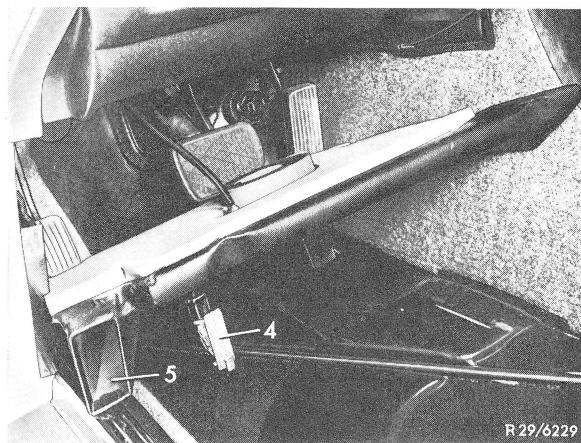

Fig. 5
**11** Pull cable for legroom light through cover, insert plug and force legroom light (4) into cover (Fig. 5).